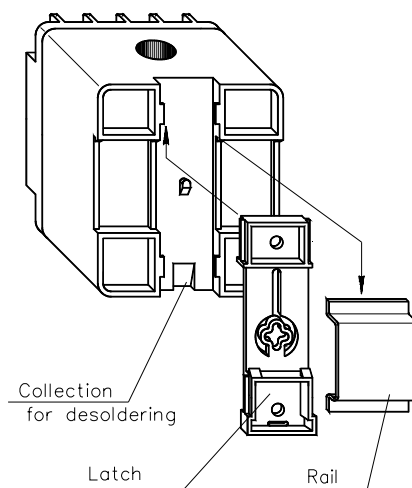

Figure C.1 Mounting on the rail
- place a latch according to figure C.1 to link the protuberances of a case to edge of the rail;